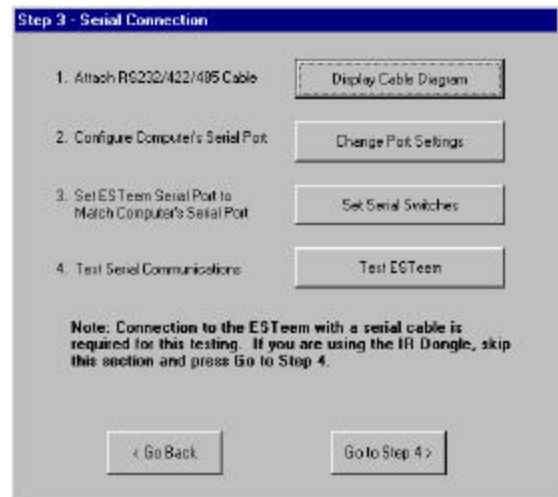

Figure 8: Step 3 – Serial Connection
5. Step 3 – Serial Connection window will be displayed (Figure 8). This step will help configure the computer and the ESTeem to communicate with each other.